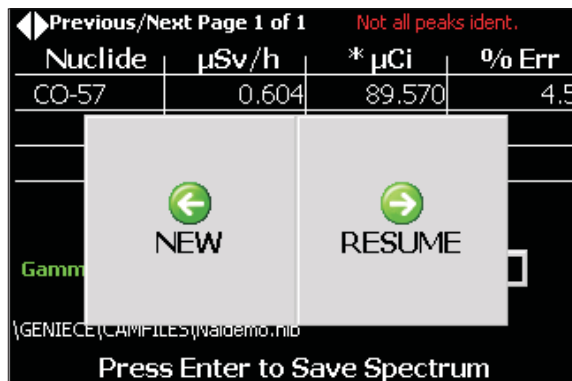

Figure 25 New or Resumed Spectrum
- If data acquisition *is* in progress, “Press Enter to Save the Spectrum”, then select “NEW” to acquire a new spectrum or “RESUME” to continue the current acquisition (Figure 25).